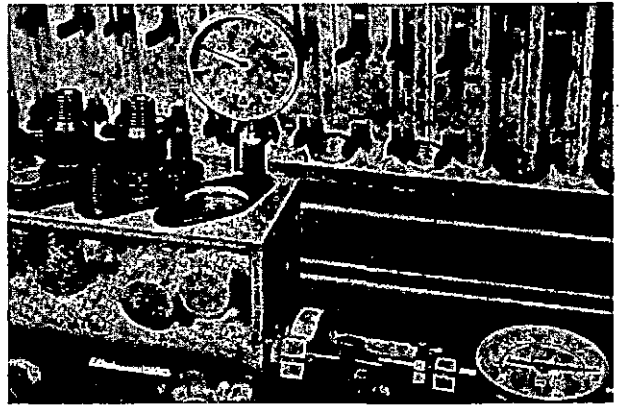

Fig. 61 Adjusting thickness of phasing shims
- (v) Turn the pump camshaft manually in direction of rotation (clockwise, viewed from drive end) until oil just ceases to flow from the leak-off. The dial gauge reading at this point should be within the limits specified against 'Plunger lift to port closure' in Stage 'A' of the Test Schedule. Adjust, if necessary, by means of the phasing shims beneath the barrel/delivery valve assembly (fig. 61), reducing shim thickness to rectify late closure, and vice versa. Pumps with serial numbers prefixed '626' and later have two-piece shims which can be changed without removing the barrel/delivery valve assembly. Variation of shim thickness affects the dial reading by a corresponding amount. When correct, leave camshaft at No. 1 port closure and set the pointer of the graduated disc on the pump drive to a convenient figure, noting this for reference during phasing.
Adjust the stop (fig. 61, Item 'C') to give fuelling of 2 ccs. per 100 strokes at 325 r.p.m. Final adjustment is made on the engines at installation.